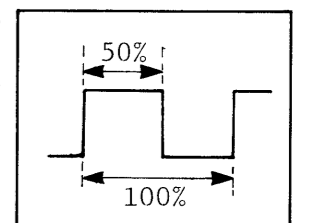

Fig. 36
- (1) Connect oscilloscope to TP4 pin 1 (CH1).
- (2) Press C4 key and adjust PWM 50% VR6 (PANEL BOARD A) so that duty ratio of pulse is 50%. (Fig. 36)